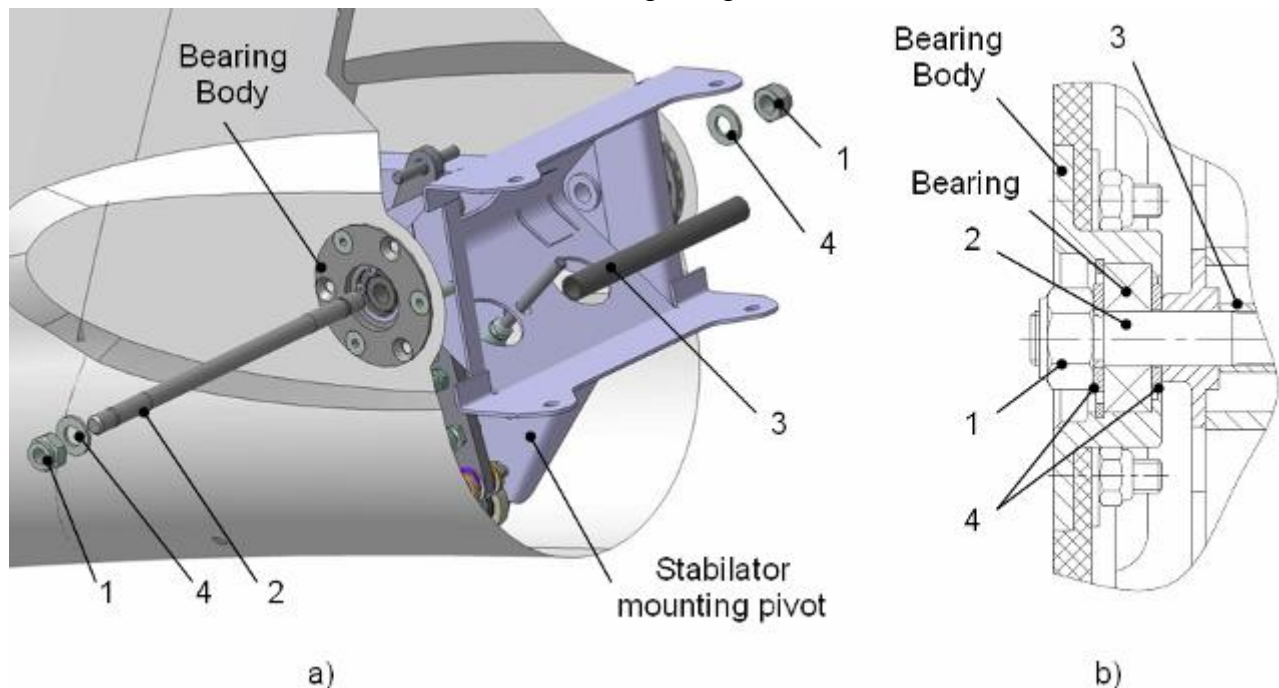

Fig. 4-7
6. Unscrew nuts (1) with two socket wrenches 13 (mm) and remove Stabilator Axis (2) together with Spacer (3) and Washers (4), Fig. 4-7, a. Pay attention washers (4) installed on the outer and inner sides of the bearings, Fig. 4-7, b.